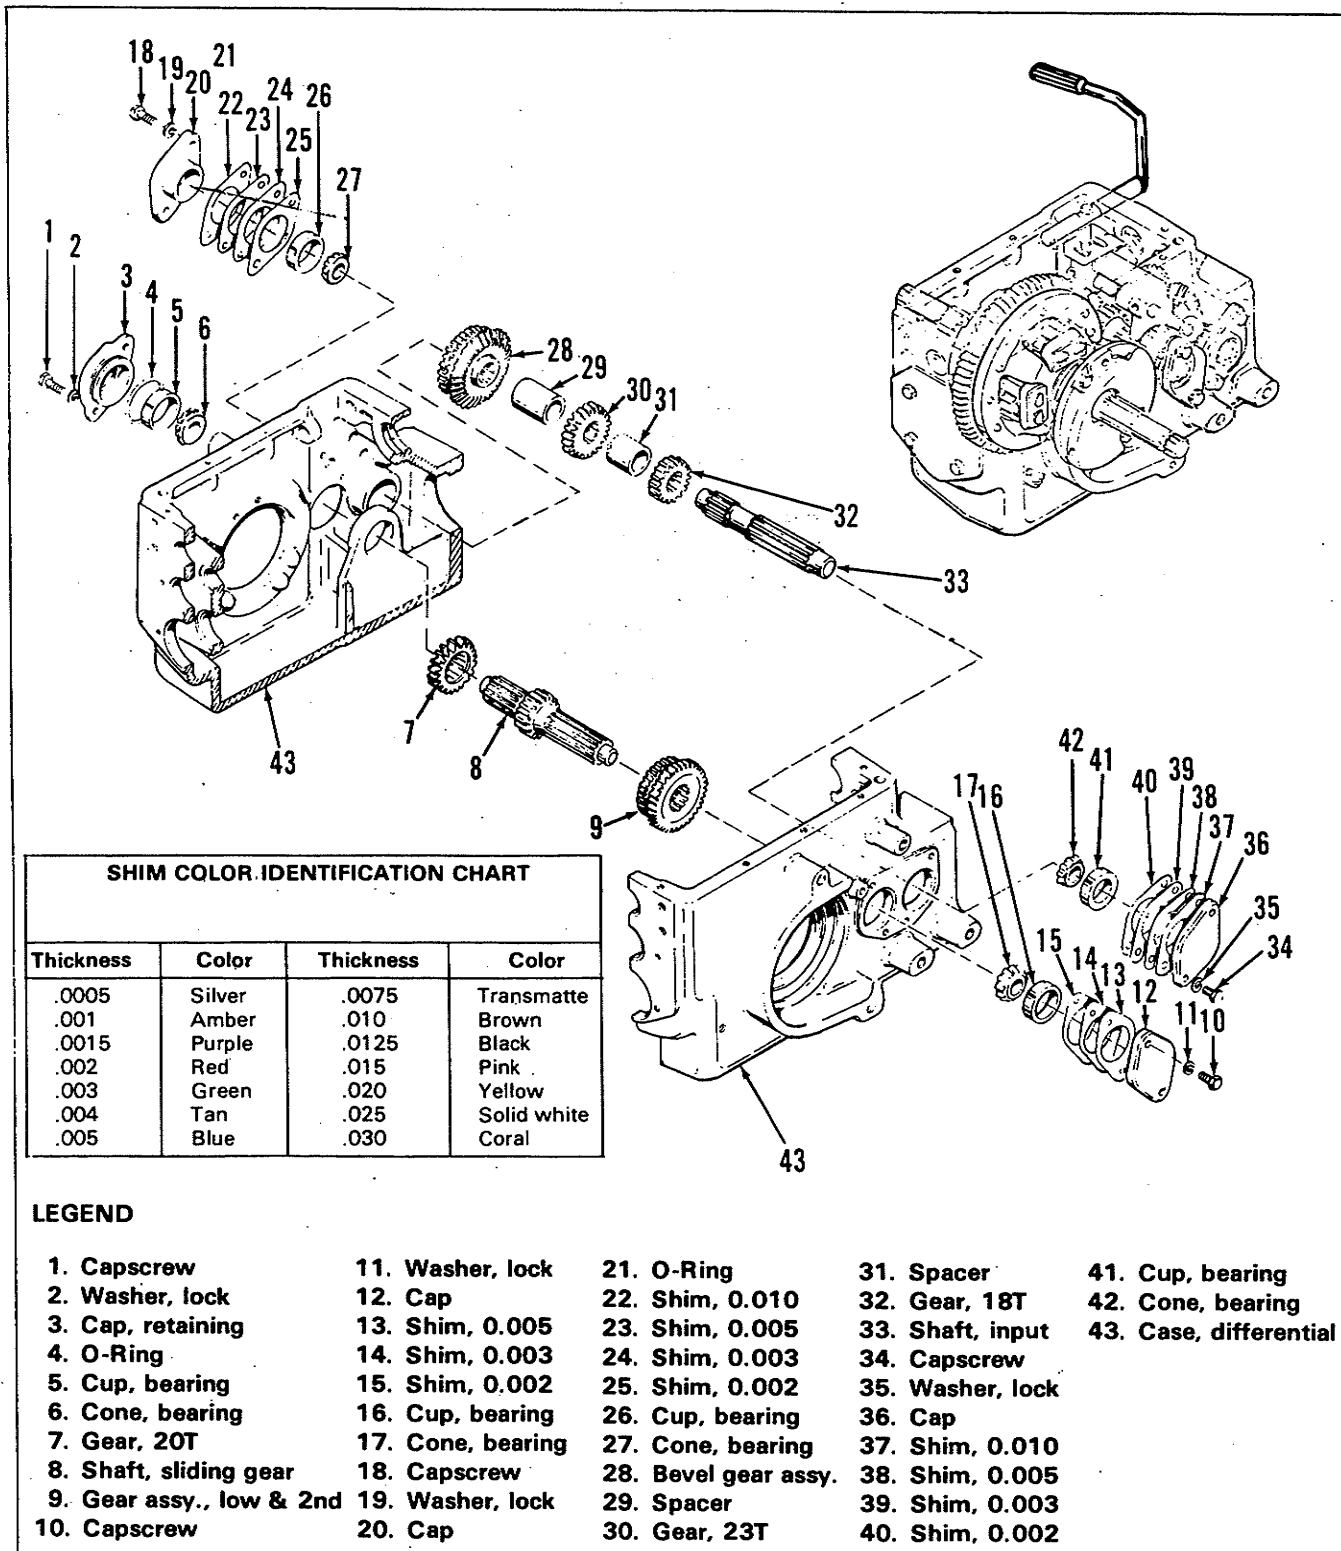

Figure 31. Transmission
- f. Remove the retainer cap (3, Figure 31) and its o-rings (4) by removing the two 3/8-16 x 7/8 inch long capscrews (1) and lockwashers (2) holding it to the transmission case. If the bearing cup (5) must be replaced, remove it using a bearing cup puller. Be sure the tongs of the puller are aligned with the grooves in the cup. Carefully remove the bearing cone (6) by sliding it off the gear shaft (8).
- g. Remove the cap (12, Figure 31) and shims (15, 14, 13) by removing the two 3/8-16 x 7/8 inch long capscrews (10) and lockwashers (11). Remove the bearing cup (16) from the transmission case.
- h. Slide the gear (7, Figure 31) off the gear shaft and through the retainer cap hole. Move the gear shaft (8) partially through the retainer cap hole, and remove the bearing cone (17) and gear assembly (9) from the shaft. Then, remove the gear shaft from the transmission case.
- i. Remove the cap (20, Figure 31) and shims (22, 23, 24, 25) by removing the two 3/8-16 x 7/8 inch long capscrews (18) and lockwashers (19). Remove the o-ring (21) from the cap and discard.
- j. Remove the cap (36, Figure 31) and shims (37, 38, 39, 40) by removing the two 3/8-16 x 7/8 inch long capscrews (18) and lockwashers (19). Remove the bearing cup (41) from the transmission case.
- k. Slide the bearing cone (42, Figure 31), gear (32), and spacer (29) off the input shaft (33) through the right cap (36) hole.
- l. Move the input shaft (33, Figure 31) with the gear (28), and bearing cup (26) and
Shims (22, 23, 24, 25, Figure 31) determine the location of the bevel gear assembly on the input shaft. This location is critical to obtain the proper meshing of the bevel gear with the hydrostatic unit bevel pinion. Refer to shim color chart on Figure 31.
1. If a new bearing cone (27, Figure 31), cup (26), and/or cap (20) are to be installed, clean the cone, cup, and cap, and assemble the components as shown. Rotate the cone in the cup to be sure it is seated. Using a depth micrometer, measure the distance from the cap surface the upper surface of the bearing cone (Dimension B, Figure 32).
Install the gear (28, Figure 31) on the input shaft (33).
2. Slide bearing cone (27) on the left end of the input shaft. Slide spacer (29), gear (30) and spacer (31) on the right end of the input shaft in that order. Insert the input shaft with the gears, spacers and bearing cone into the transmission case. Slide gear (32) on the right end of the input shaft.
3. Coat the surface of the correct number of shims (determined above) with a sealer such as Permatex. Apply grease to the new o-ring (21, Figure 31) and slide it in place on the cap (20). Coat the two 3/8-16 x 7/8 inch long capscrews (18) with viscous coating VC-3. Seat the bearing cup (26) on the bearing cone (27). Install the cap (20) and shims with the two capscrews and lockwashers (19). Torque the capscrews to 20 foot-pounds.
4. Install the bearing cone (42, Figure 31) and cup (41) on the right end of the input shaft.
5. Install the cap (36) and shims (37, 38, 39, 40) removed at disassembly to the transmission case with the two 3/8-16 x 7/8 inch long capscrews (18) and lockwashers (19). Tap the bearing cap to make sure the bearing is seated on the input shaft; then, torque the capscrews to 20 foot-pounds. If the end-play is correct, the input shaft will turn with a slight resistance, and the spacers can just be rotated with no shaft movement. If the fit is too tight or loose, remove or add an appropriate shim. Replace the cap and check end-play.
6. When the correct number of shims is determined, coat them with sealer. Apply viscous coating VC-3 to the two 3/8-16 x 7/8 inch long capscrews (18, Figure 31). Install the cap (36) and shims to the transmission case using the two capscrews and washers. Torque the capscrews to 20 foot-pounds.
7. Place the gear (9, Figure 31) inside the transmission case, and carefully insert the right end of the gear shaft (8) through the retaining cap (3) hole and through the gear. Slide the gear (7) through the retaining cap hole and install the gear on the gear shaft.
8. Seat the bearing cone (6, Figure 31) on the gear shaft and press the bearing cup (5) in the retainer cap (3). Apply grease to the new o-ring and slide it in place on the retainer cap. Apply viscous coating VC-3 to the two 3/8-16 x 7/8 inch long capscrews (1). Install the retainer cap to the transmission case with the two capscrews and lockwashers (2). Torque the capscrews to 20 foot-pounds.
9. Install the bearing cone (17, Figure 31) and cup (16) on the right end of the gear shaft. The bearing is not a press fit and should slide freely on the shaft.
10. Install the cap (12, Figure 31) and shims (13, 14, 15) removed at disassembly to the transmission case with the two 3/8-16 x 7/8 inch long capscrews (10) and lockwashers (11). Tap the bearing cap to make sure the bearing is seated on the gear shaft; then, torque the capscrews to 20 foot-pounds. The gear shaft must clear the cap (12) and rotate freely. If the fit is too tight or loose, remove or add an appropriate shim. Replace the cap and check the end-play.
11. When the correct number of shims is determined, coat them with sealer. Apply viscous coating VC-3 to the two 3/8-16 x 7/8 inch long capscrews (10, Figure 31). Install the cap (12) and shims to the transmission case using the two capscrews and washers. Torque the capscrews to 20 foot-pounds. The shaft should have slight resistance when rotated.